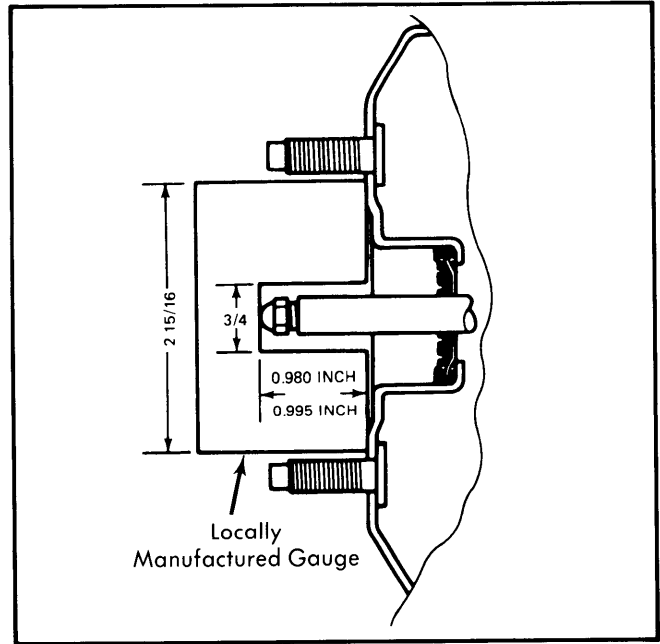

Fig. 5 Checking Push Rod Height
**Ford Motor Co.** — Check distance from outer end of booster assembly push rod to front face of booster. Use a gauge manufactured to specifications shown in illustration (see Fig. 5). Turn push rod screw in or out to obtain specified length of .980-.995".